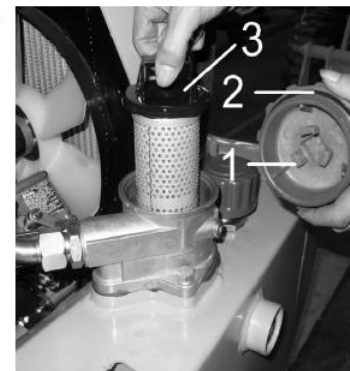

Fig. C- 46
1. Unscrew the cover (Fig. C 46:1). Remove the filter cartridge (Fig. C 46:3).
3. Check the seal (Fig. C 46:2). Replace the seal, if damaged.
6. Unscrew the cover (Fig. C 46:1). Clean the bottom of the tank and the inner surfaces with hydraulic oil or scavenge oil. Screw on drain plug.